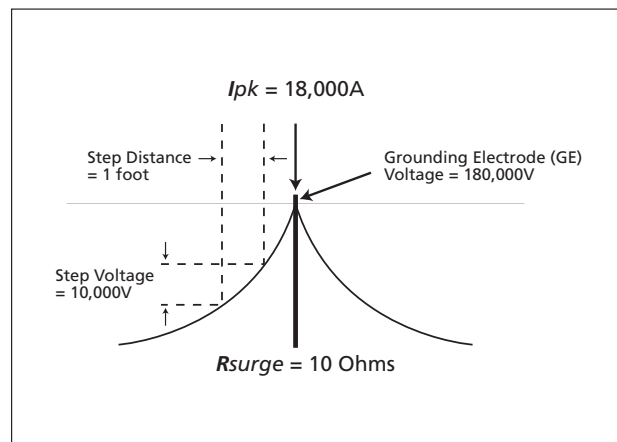

Fig. 2: High voltage distribution along the Earth Ground from the point of lightning strike / ground fault
Maximum voltage is developed at the point of entry and this voltage decreases exponentially along the surface of the earth as one moves away. Refer to Figure 2 above where voltage distribution is shown around a single Grounding Electrode (GE) in the presence of an 18,000A lightning strike. A typical Grounding Electrode (GE) should have a resistance less than 25 Ohm but when large amounts of current are dumped into the soil, the area will become less resistive to say 10 Ohm. At a peak current of 18,000A and surge resistance of 10 Ohm, the top of the rod will rise to 180,000 volts and the charge distribution into the ground will cause a step potential that decays as it moves radially from the ground rod. This nonlinear charge distribution will cause the ground surface to develop a voltage gradient that also extends outward radially. Figure 2 shows that a few feet away from the electrode, the voltage gradient is 10,000 volts per foot. Hence, if a person was standing on the ground with his feet 1 foot apart, he will be electrocuted with 10,000V electric shock. Similarly, if two electrical devices were grounded separately a few feet apart, the device that is down stream will be fed with a very high differential voltage and will be fried. Hence, it is important that all the devices should be grounded at a single point as explained below.